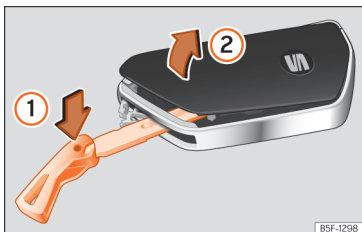

Fig. 71 Vehicle key: open the battery compartment cover.
- Insert the key blade into the slot >>> Fig. 71, press it in the direction of arrow ① and detach the cover by levering it ②.